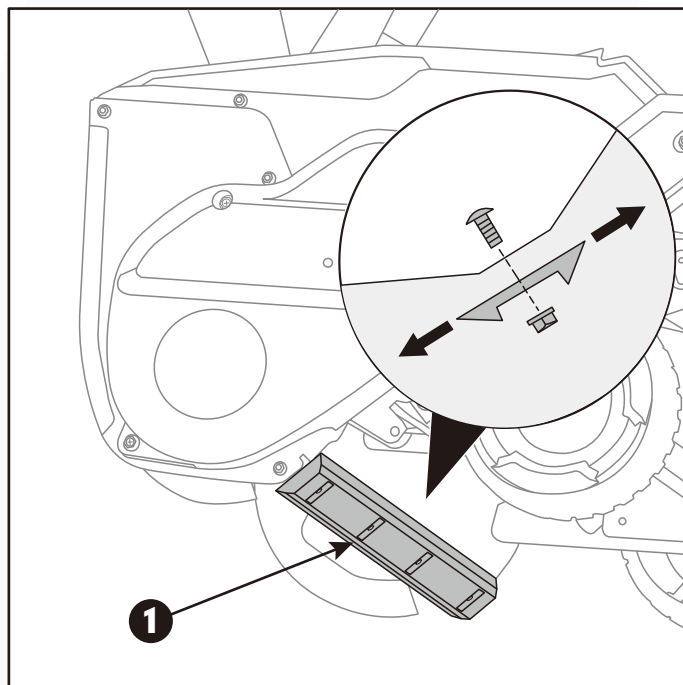

Fig.14
5. Loosen the four nuts and bolts which secure the scraper blade to the housing. Move the scraper blade to the appropriate position or reverse the existing scraper blade. (Fig.14)